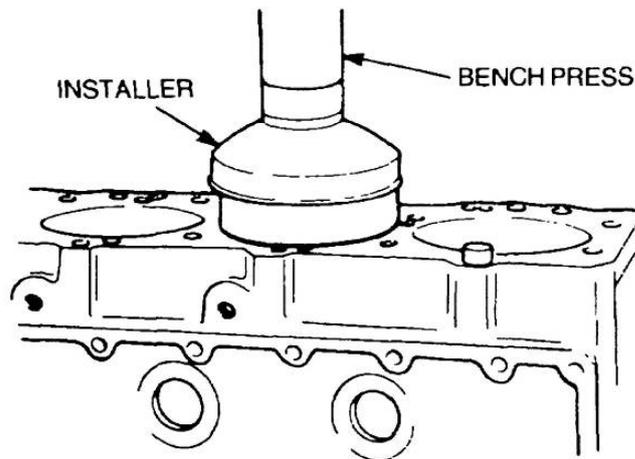

Figure 37 Installing the Cylinder Liners
- a. Ensure that the engine block is thoroughly clean and all trace of machine cuttings is removed from each of the cylinder liner bores. Position the engine block on a hydraulic press, then start a new cylinder liner into a bore. Position special tool 9-8523-2554-0 over the cylinder liner and press the liner into the block by initially applying a load of 500 kg (1100 lbs), apply a final load of 2500 kg (5500 lbs) to ensure that the cylinder liner is properly seated (Figure 37). Repeat this procedure for each cylinder liner being replaced.